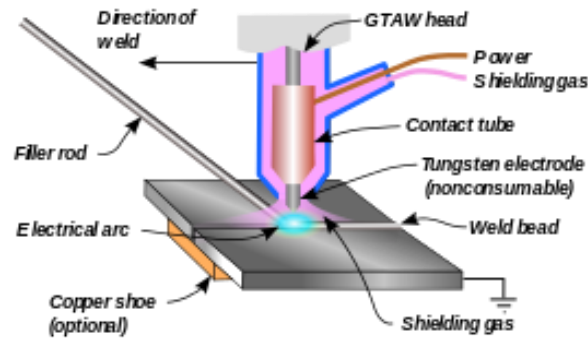

Figure 1: Gas Tungsten Arc Welding
1.1 GTAW: Gas tungsten arc welding (figure 1), also known as tungsten inert gas (TIG) welding, is an arc welding process that uses a non-consumable tungsten welding electrode. The metal filler is applied from an external source, typically as a bare metal filler rod. The welding pool area is shielded from the atmosphere and potential pollution by inert gas insulation, such as argon. A filler metal is usually used, but some welds, such as autogenous welds, do not require it. GTAW is ideally suited for forging thin parts of stainless steel and light metals such as titanium, magnesium and copper alloys. The process helps the operator to exert more control over the welding process than other processes, resulting in stronger, high-integrity welding. The downside is that GTAW is more complicated and slower than many other welding methods [2].